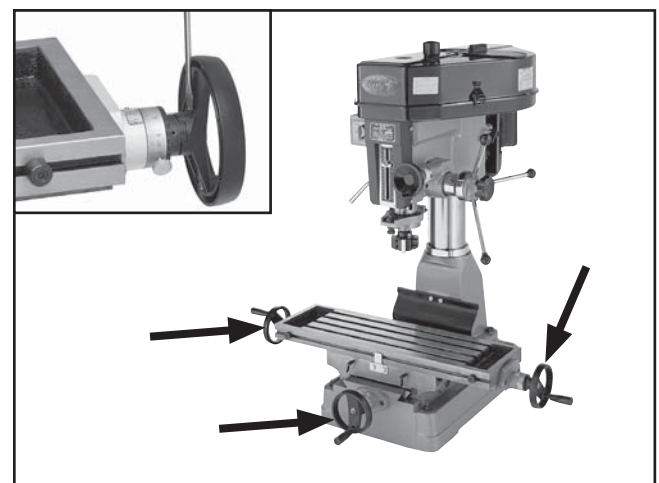

Figure 10. Handwheel installation.
3. Secure one handwheel in each of the locations shown by sliding the handwheel onto the leadscrew and tightening the set screw (**Figure 10**).